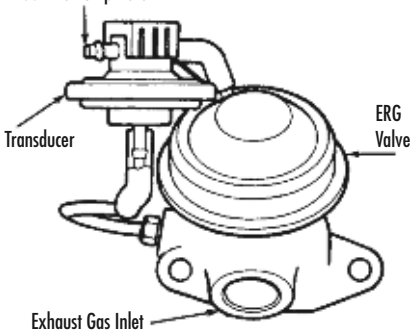

FIGURE 10: TEST THE VACUUM SOURCE FOR THE BPV WITH YOUR PUMP
- 1) Remove the air cleaner and plug the intake manifold fitting. Start the engine and bring it to normal operating temperature. Position the fast-idle cam follower on the second step of the fast-idle cam (to obtain about 1500 RPM), and then note engine speed on a tachometer. Use the pump to check the source vacuum at an intake manifold port (FIGURE 10). Note this reading.